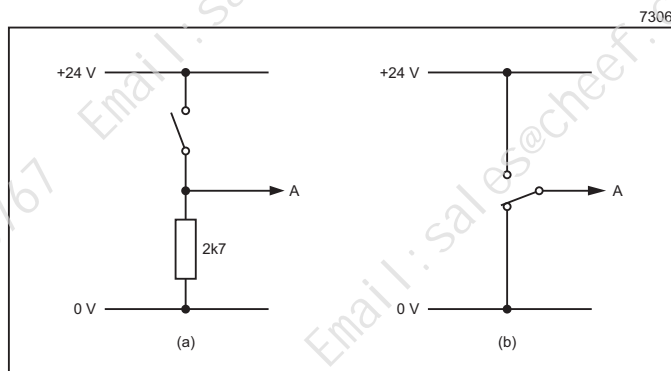

Figure 46. Input connection: 'Source' option
If the 'Source' option is selected, connect any inputs that are not active to the 0 V line. To connect an active input, use a pull-down resistor on the input (A) as shown in Figure 46 (a), or use a relay (b).